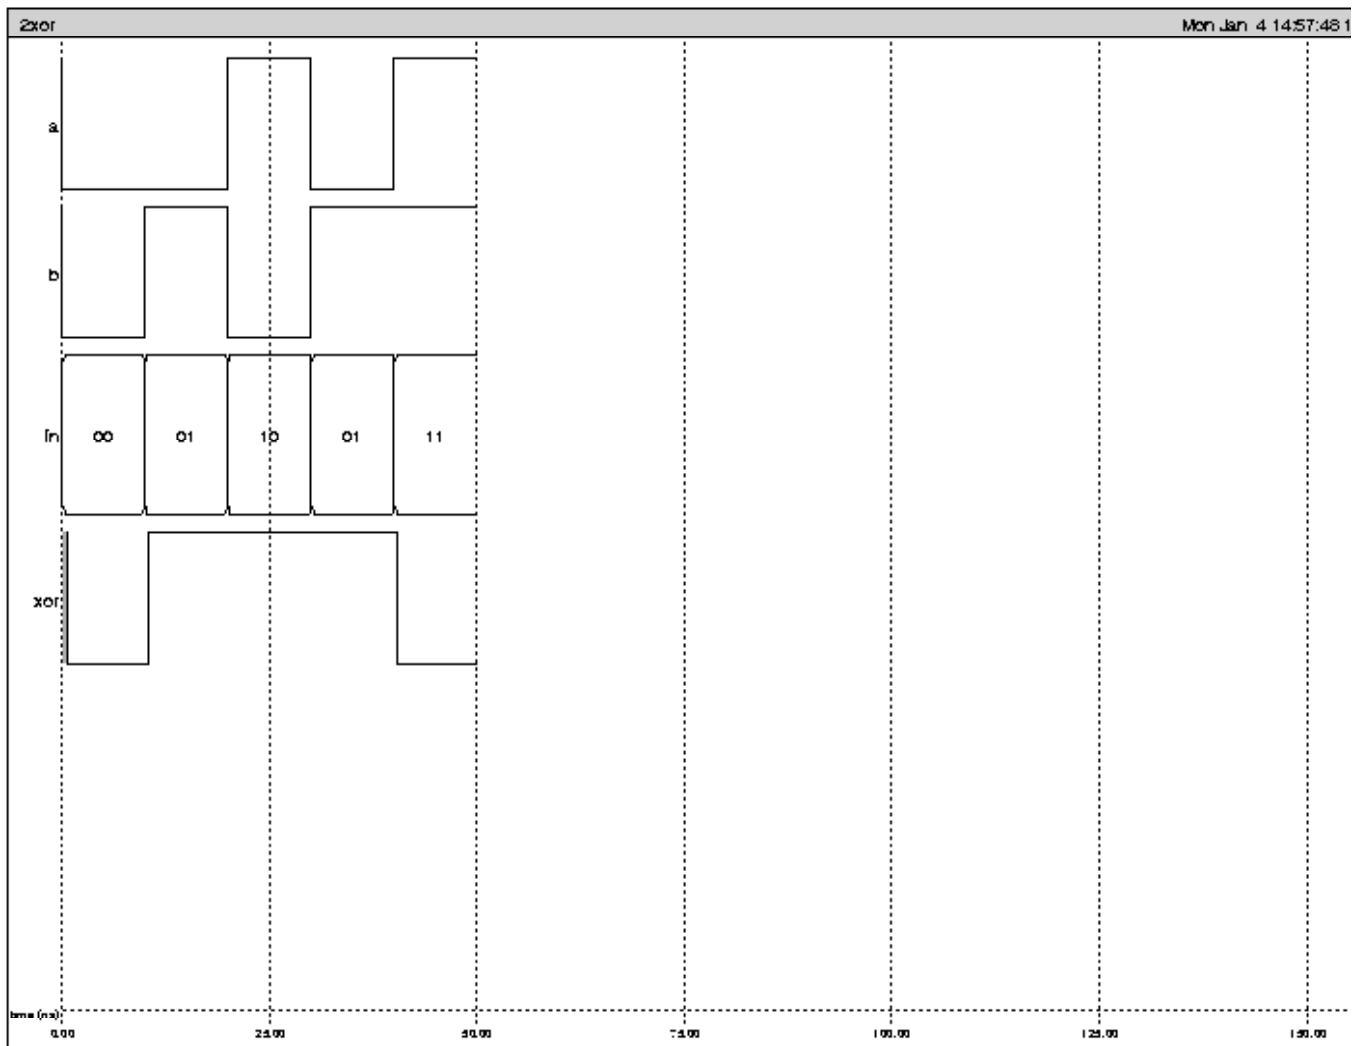

Figure 3: IRSIM simulation output file created using the "print" menu command
- To print the waveform to a postscript file, go to the "print" menu and select "file". You will be asked for a filename. Hit return to select the default filename shown. Once you exit from *IRSIM* you will have a file *2xor.ps* in your current working directory. You can print this file on any postscript printer. The output file for the above simulation is shown in Fig. 3.